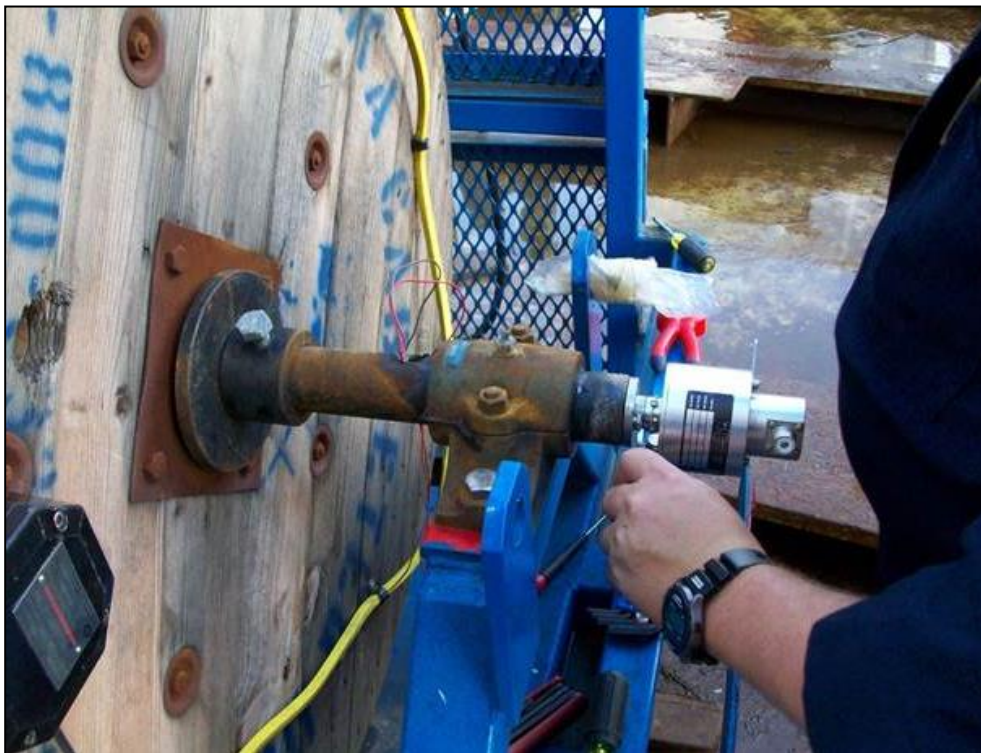

Figure 3. Connecting the Slip Ring to the Spooling Unit.
8. Connect the slip ring to the spooling unit. Figure 3.